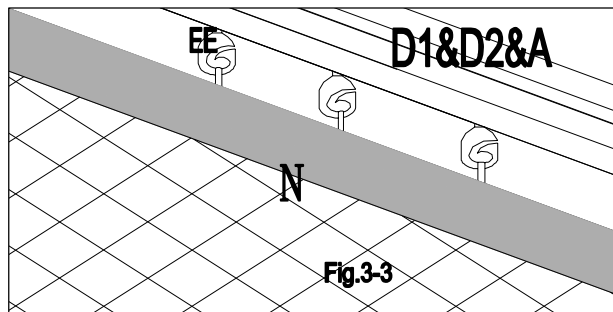

Fig.3-3
Fig. 3-3: Attach Mosquito netting (N) onto Big Screen (A) and Long and Short Mosquito Netting Guider (D1&D2) with Plastic Rings (EE). Pay attention to the difference of two sides with different length.